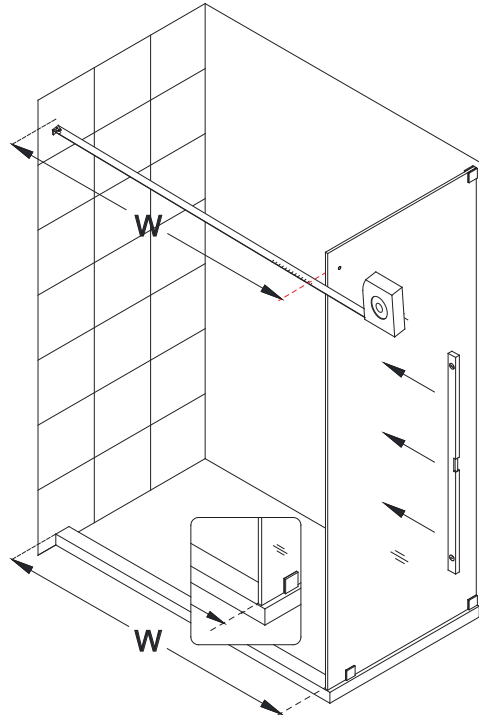

Fig 6
6. Measure the distance from the finished wall to the inside surface of the installed **Return Panel Glass (#27)**. This distance will represent the finished opening size "**W**" that will be used to calculate the finished cut dimension for the **Upper Guide Rail (#03)**. **(Fig 6)**